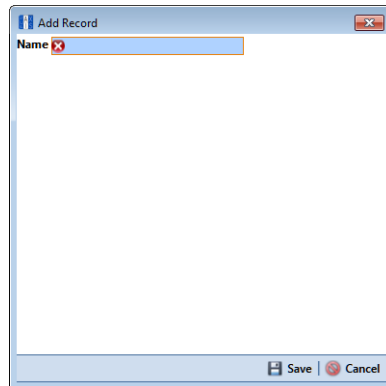

Figure 7-148. Add Record Dialog Box
- 8 In the pop-up *Add Record* dialog box (Figure 7-148), type a name for the anode in the **Name** field. Fields requiring information include a  icon. You must enter information in the required fields before the record will be added.